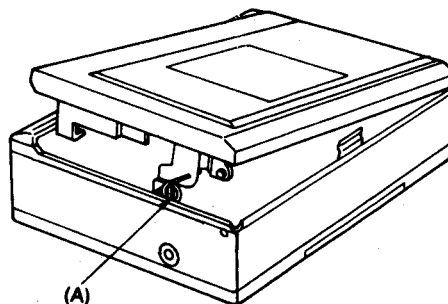

Fig. 3
4. Remove the spring (A). (Fig. 3)